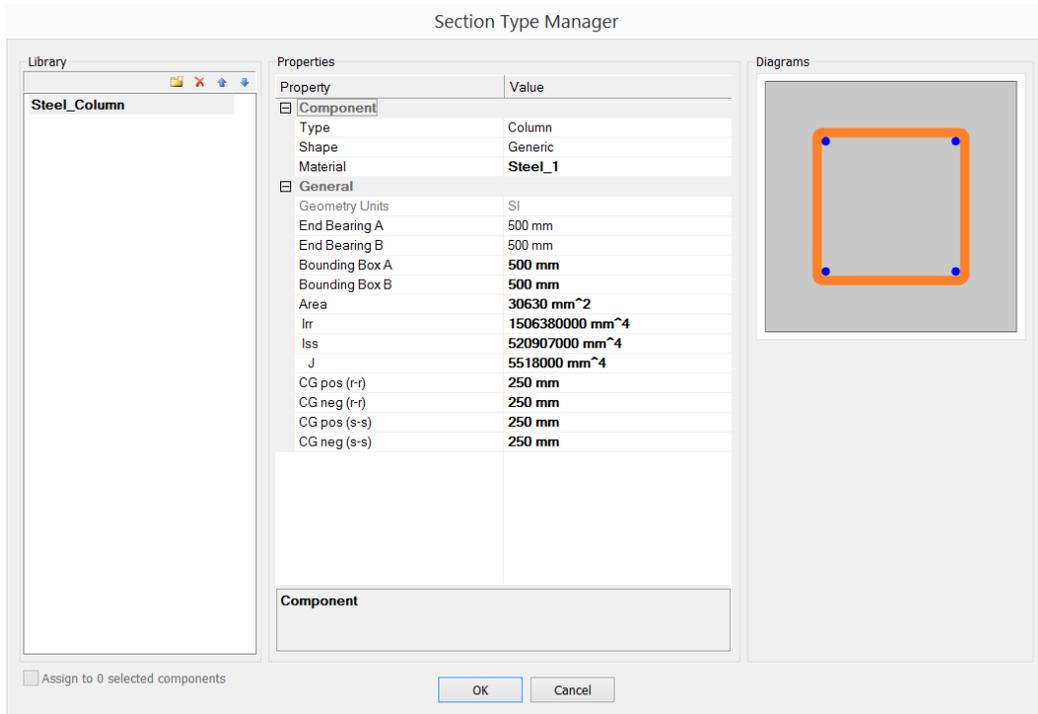

Figure 6.1-6 - Section Type Manager
- Type in the name of section type and select **OK**. For this example, use the name **Steel_Column**. See **Fig. 6.1-6**.
Depending on the selections for *Type*, *Shape*, and *Material* drop down lists as shown in **Fig 6.1-6**, the input parameters will change. The options are as follows: